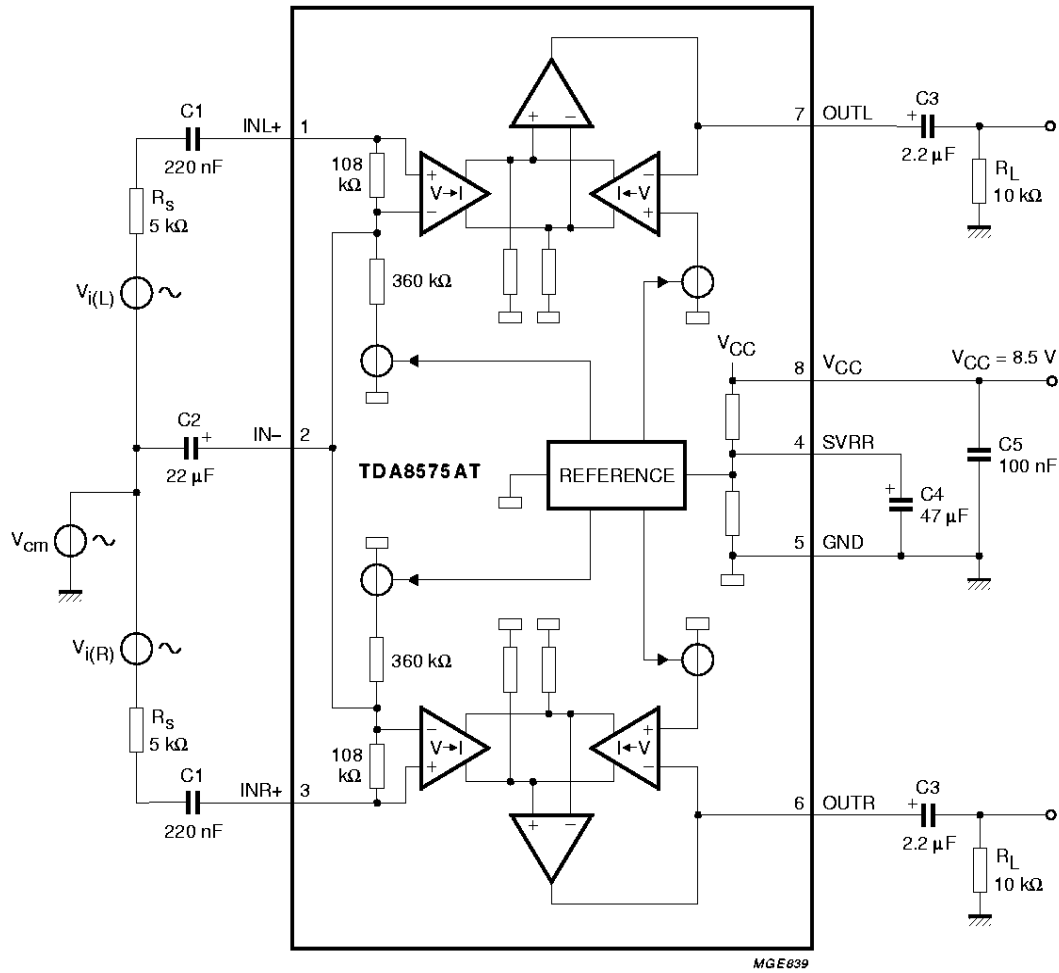

Fig.8 Application circuit TDA8575AT.
**QUALITY SPECIFICATION**Quality according to *UZW-BO/FQ-0601*, if this type is used as an audio amplifier.**DC CHARACTERISTICS** $V_{CC} = 8.5\text{ V}$ ;  $T_{amb} = 25\text{ °C}$ ;  $R_L = 10\text{ k}\Omega$ ; in accordance with application circuit (see Fig.8).
$V_{CC} = 8.5 \text{ V}$ ;  $f = 1 \text{ kHz}$ ;  $R_s = 0 \text{ k}\Omega$ ;  $R_L = 10 \text{ k}\Omega$ ;  $T_{amb} = 25 \text{ }^\circ\text{C}$ ; in accordance with application circuit (see Fig.8).
4. The common mode rejection ratio is measured at the output with a voltage source  $V_{cm(rms)} = 1 \text{ V}$  and both  $V_{i(L)}$  and  $V_{i(R)}$  short-circuited according to Fig.8. The common mode rejection is dependent on the capacitor C2 connected to the IN- input. The common mode rejection for low frequencies (<1 kHz) can be increased by using a larger capacitance for C2.